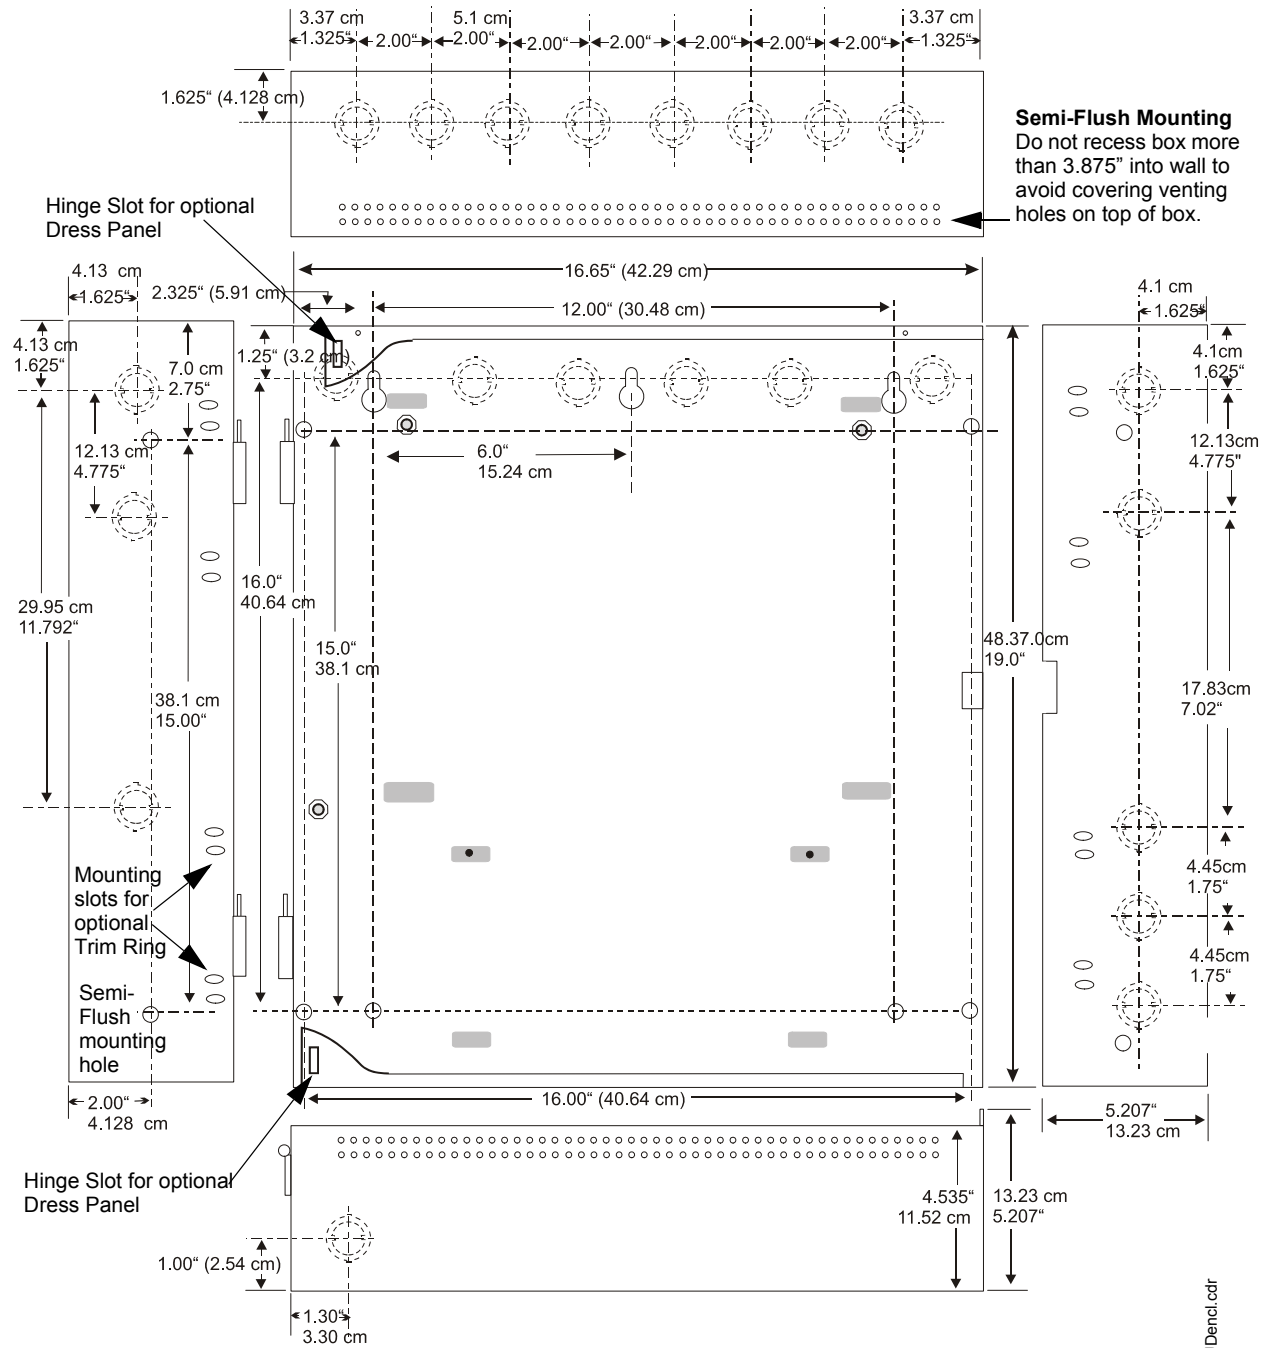

Figure 2.2 Cabinet Dimensions
- ✓ Mark and predrill hole in the wall for the center top keyhole mounting bolt using the dimensions illustrated in Figure 2.2 on page 27.